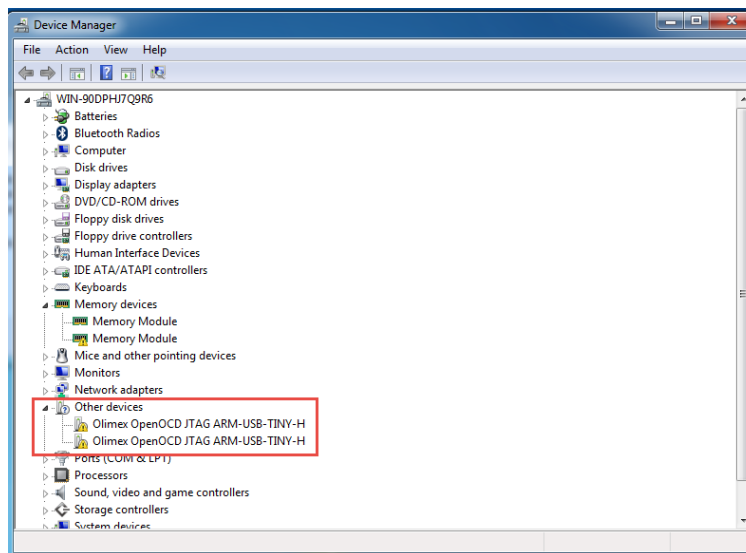

Figure 2-3. Device Manager Listing Olimex Debugger under Other Devices
- Open Device Manager and look for the Olimex Debugger. If it shows up under **Other devices** as shown in Figure 2-3, the driver must be updated manually.